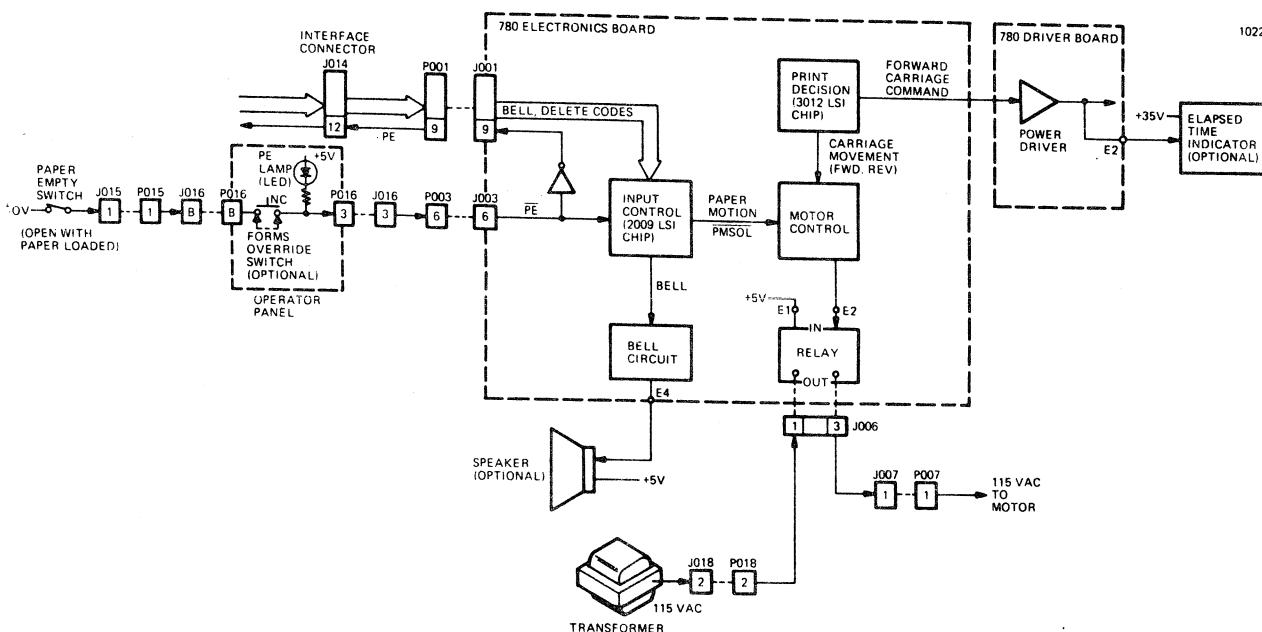

FIGURE 2-7. SPECIAL FUNCTIONS
2.8 SPECIAL FUNCTIONS (Figure 2-7)